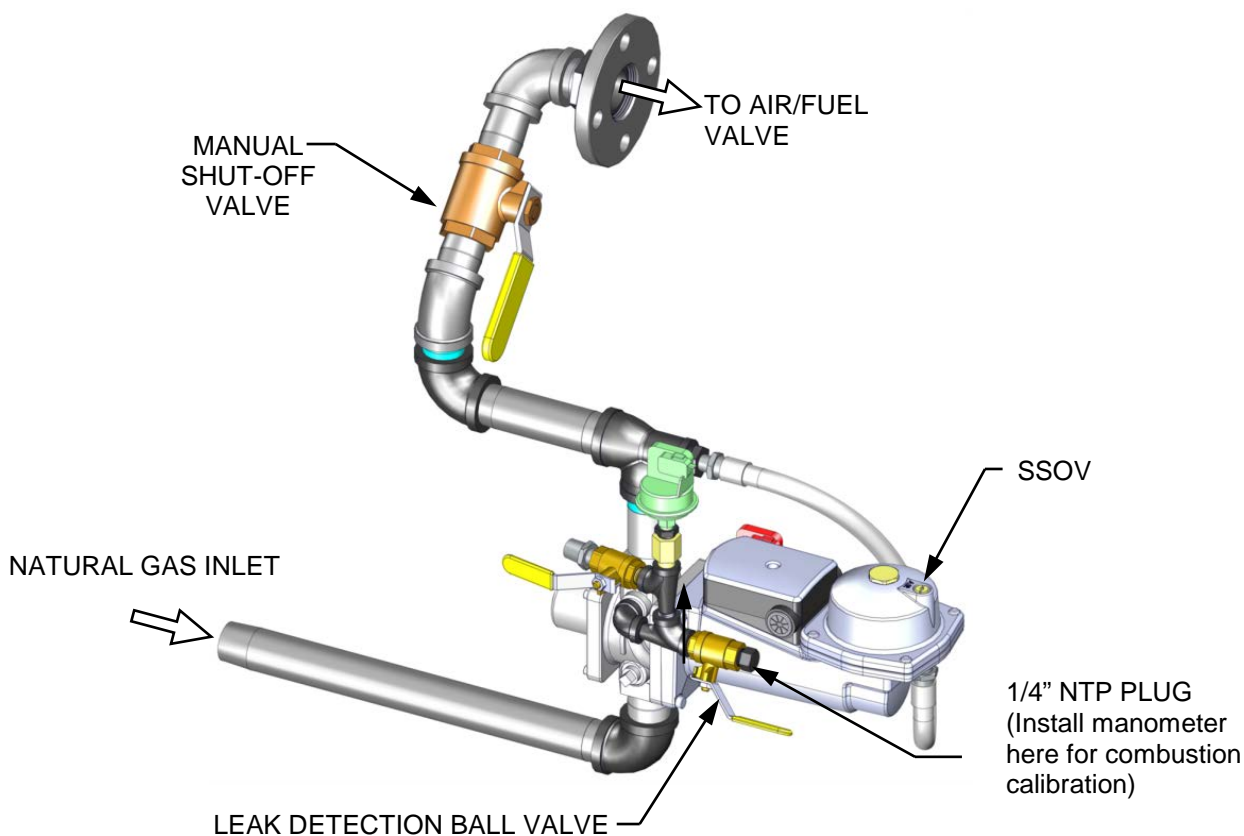

Figure 4-1a: BMK 750 & 1000 1/4 Inch Gas Plug Location
The gas supply manometer is installed at the upstream and/or downstream location shown in Figure 4-1a through 4-1d.
3. Remove the 1/4" NPT plug from the leak detection ball valve on the downstream side of the SSOV as shown in Figure 4-1a – 4-1d.